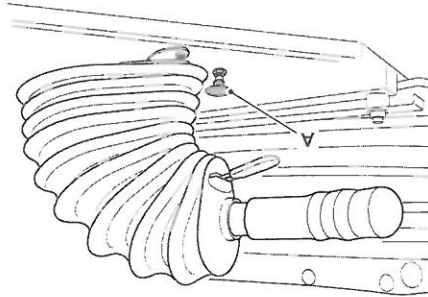

Figure 360.
2. Pull the release knob to open the panel in front of the cab. Refer to Figure 360.